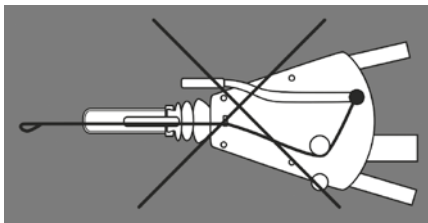

Figure 3 DO NOT wrap breakaway cable around jockey wheel.
2. The breakaway cable MUST NOT be wrapped around the jockey wheel, as this disables the emergency brake (Fig 3).